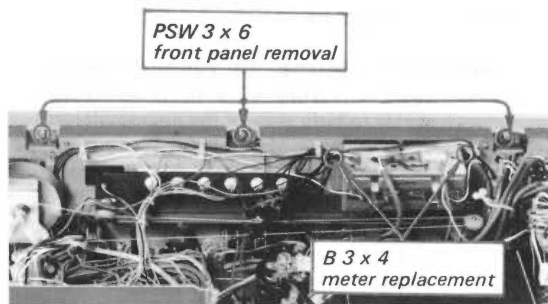

Fig. 2-2. Front panel removal and meter replacement
3. Remove the three screws shown in Fig. 2-2. This frees the front panel.
1. Remove the meter lamp shade by taking out the two screws shown in Fig. 2-2.